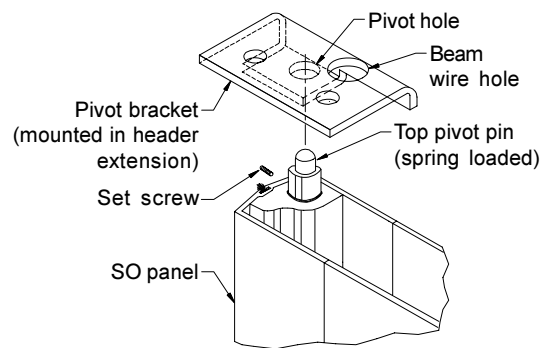

Figure 15. Panel Top Pivot Detail
3. Top pivot pin is shipped in retracted position. Loosen set screw and release top pivot pin into the hole in the bracket (**Figure 15**). Tighten set screw when top pivot pin is set.